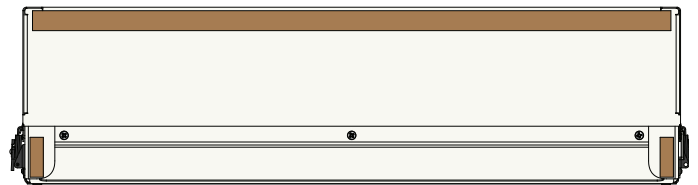

FIG. 1c
- Align the 1-1/2" Cork Strips (J) along the left and right edge of the BenchTop DC Assembly as shown in [FIG. 1c]. Peel the backer tape off and adhere both pieces to the BenchTop DC Assembly (A). Turn the unit right-side up.